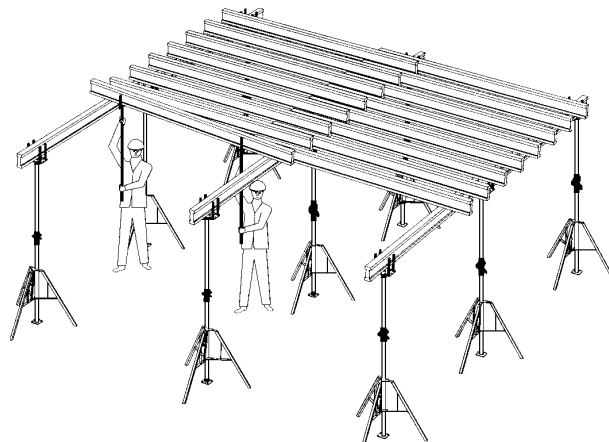

Fig. 3.7 Typical Joist Configuration
6. Lay joist beams (Fig. 3.7).